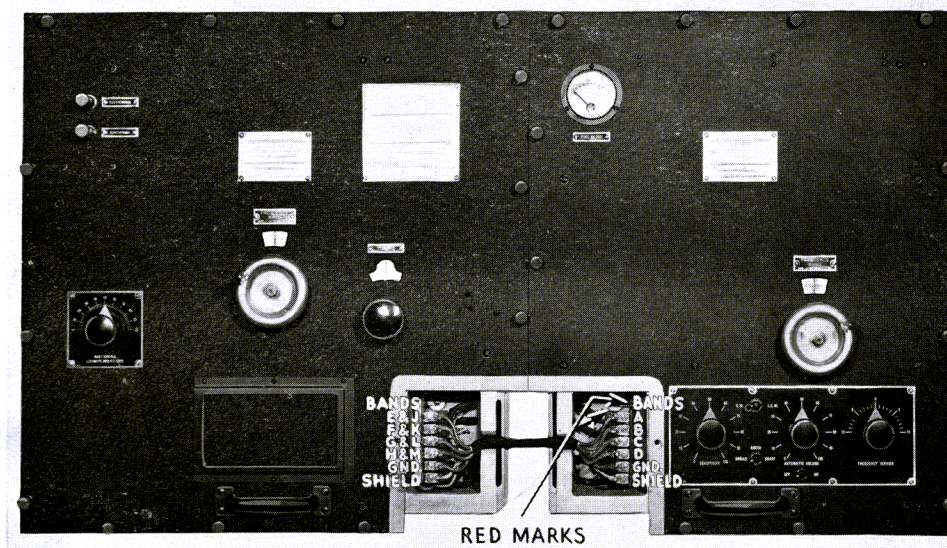

Figure 9—RF Tuner and IF-AF Units—Model RAB-1 Equipment
7.5-2 Connect the short 5-conductor shielded jumper cable, which interconnects the two units, in its proper place at the front of the units. See Figure 9. It should lay in the groove and connect the two terminal boards located in the recesses in the respective chassis. The red mark on one end of this cable should appear adjacent to a red mark provided on the terminal strip in the IF-AF Unit. The terminals connected to the braided shield should be connected to the bottom of the terminal board, and the red marking on the cable bridle should correspond with the red marking at the top of the terminal board in the IF-AF Unit. Place the shield cover plate (in accessory box) over this cable and secure by means of the four thumb screws.